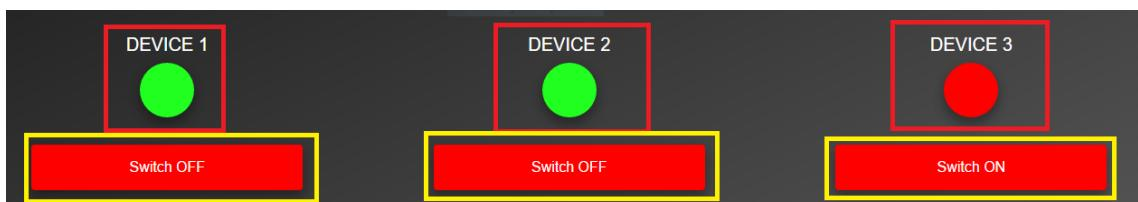

Figure 1.30: Button
- The last page is *Schedule ON/OFF* page. This is the controlling page with features like scheduling and switching ON/OFF. The button highlighted in Figure 1.30 is the switch. It can be noted that the text on it changes according to current button status and circular block which indicates the actual device status. GREEN represents ON status.